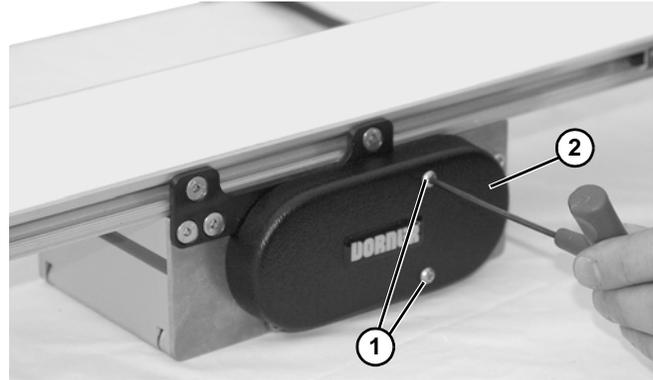

Figure 29
7. Remove two screws (Figure 29, item 1) and cover (Figure 29, item 2) from conveyor.